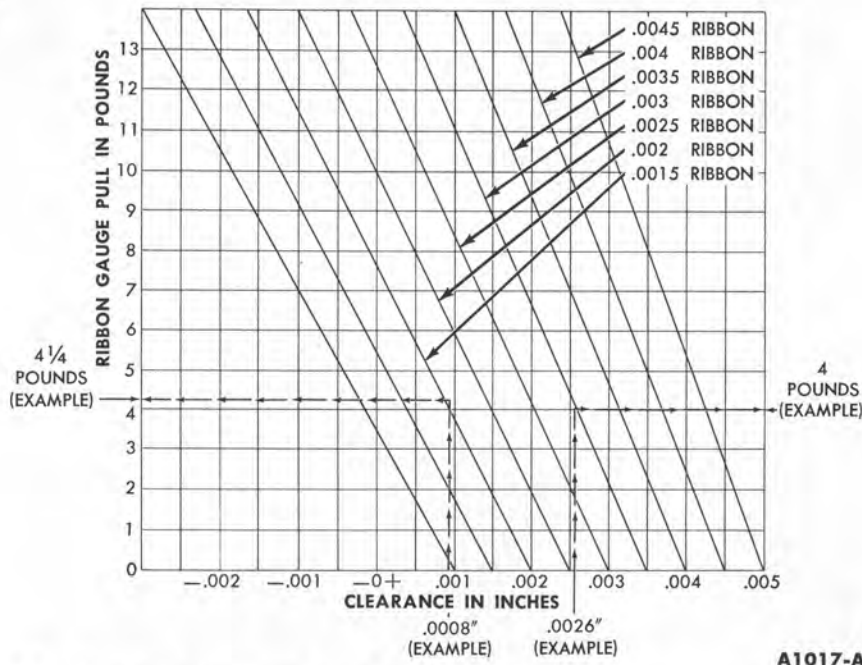

FIG. 62—Piston Clearance Chart
4. Attach a tension scale to the end of a feeler gauge ribbon that is free of dents or burrs. The feeler ribbon should be 1/2-inch wide and of one of the recommended thicknesses shown in Fig. 62.
In Fig. 62, the diagonal lines represent feeler ribbons of various thicknesses, the horizontal lines represent the pounds pull, and the vertical lines represent the clearances. To determine the clearance, locate the line representing the pounds pull required to remove the feeler ribbon from the cylinder bore. Follow the horizontal line to the right until it intersects the diagonal line representing the feeler ribbon. Read down the vertical line for the clearance.
Example 1. If a 0.0015-inch feeler ribbon is used and it takes approximately 4 1/4-pounds pull to remove the feeler ribbon, the clearance is approximately 0.0008 inch. This is determined by locating the pounds pull (4 1/4) in Fig. 62 and following the line to the right until it intersects with the diagonal line representing the 0.0015-inch feeler ribbon. Read down the vertical line for the clearance (approximately 0.0008 inch).